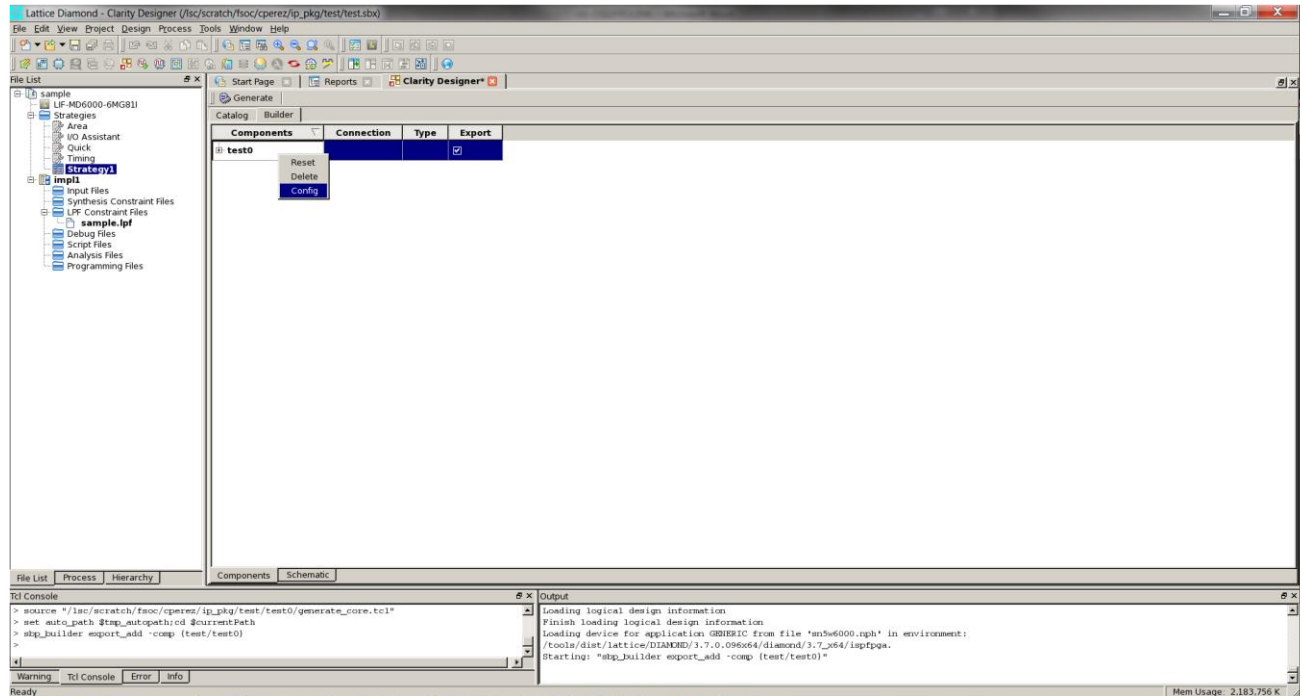

Figure 4.12. Regenerating IP in Clarity Designer
1. In the **Builder** tab, right-click the IP instance to be regenerated and select **Config** from the menu as shown in Figure 4.12.